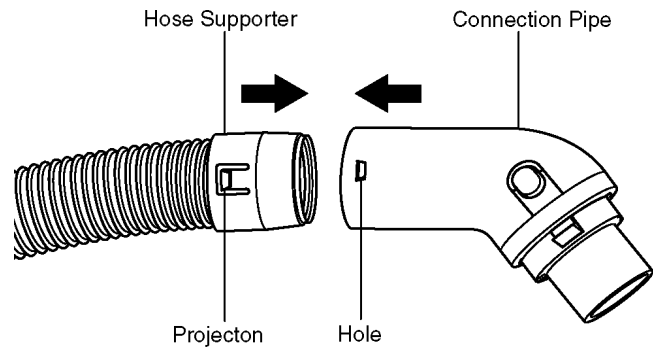

Fig.2
1. Slide the projections on the hose supporter of the hose into the holes on either side of the connection pipe (Fig.2).